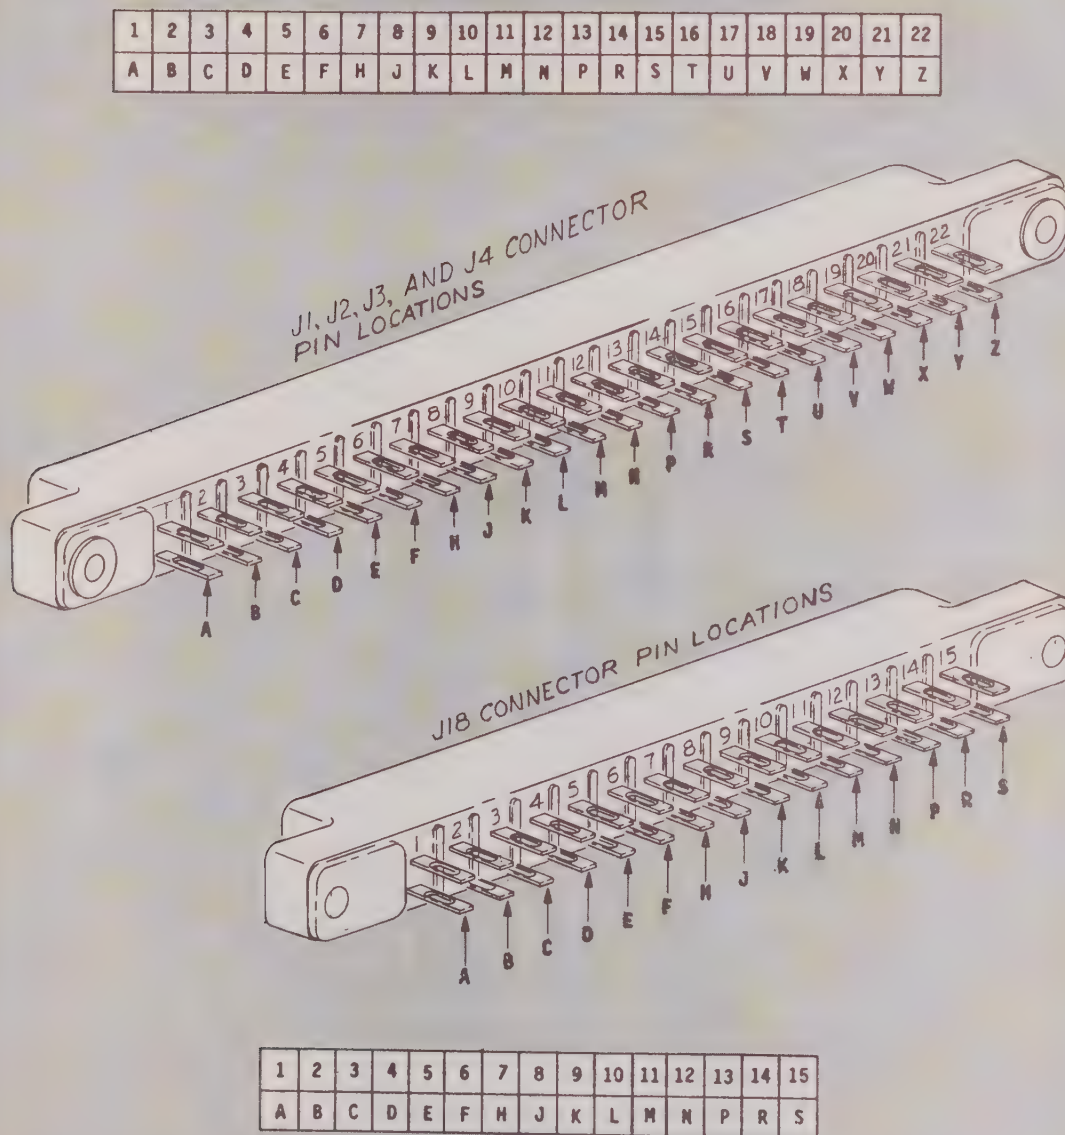

Figure 3-24. PC Board Connector Pin Location
- Figure 3-24. PC Board Connector Pin Locations